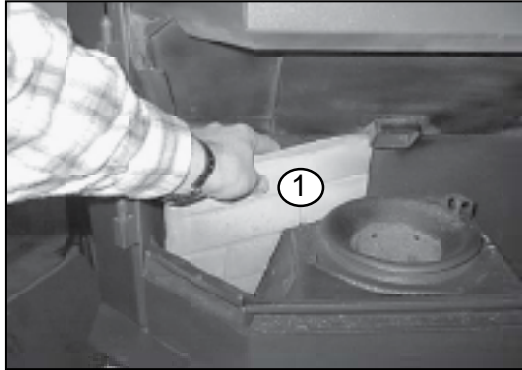

Figure 24.1
1. Slide bottom of left rear brick in first; rotate top edge toward rear of appliance and then rotate outer edge toward rear of appliance, until brick slides into place. **Figure 24.1.** Repeat for right rear brick.